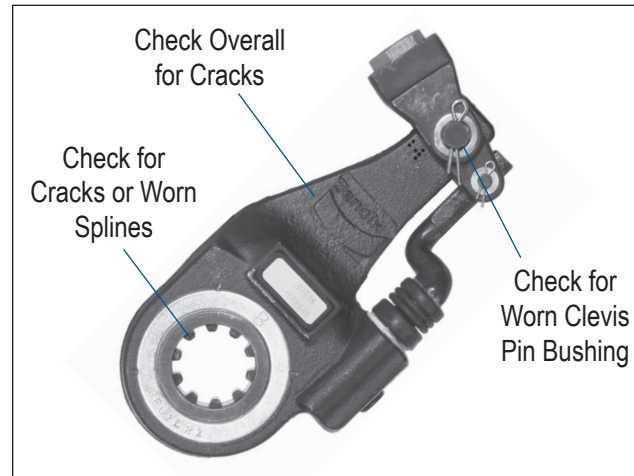

Figure 43. Automatic Slack Adjuster Inspection
1. Check clevis pin bushing for cracks and wear. Refer to Figure 43. Replace as necessary.